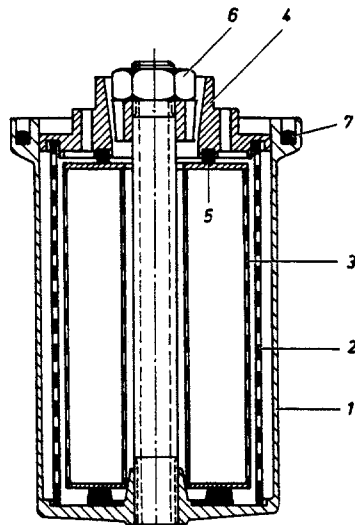

Fig. M 53/3b
- 3b. Install filter elements into lower part of case (Fig. M 53/3b). Screw lower part of case to the upper part. Do not forget the sealing ring.